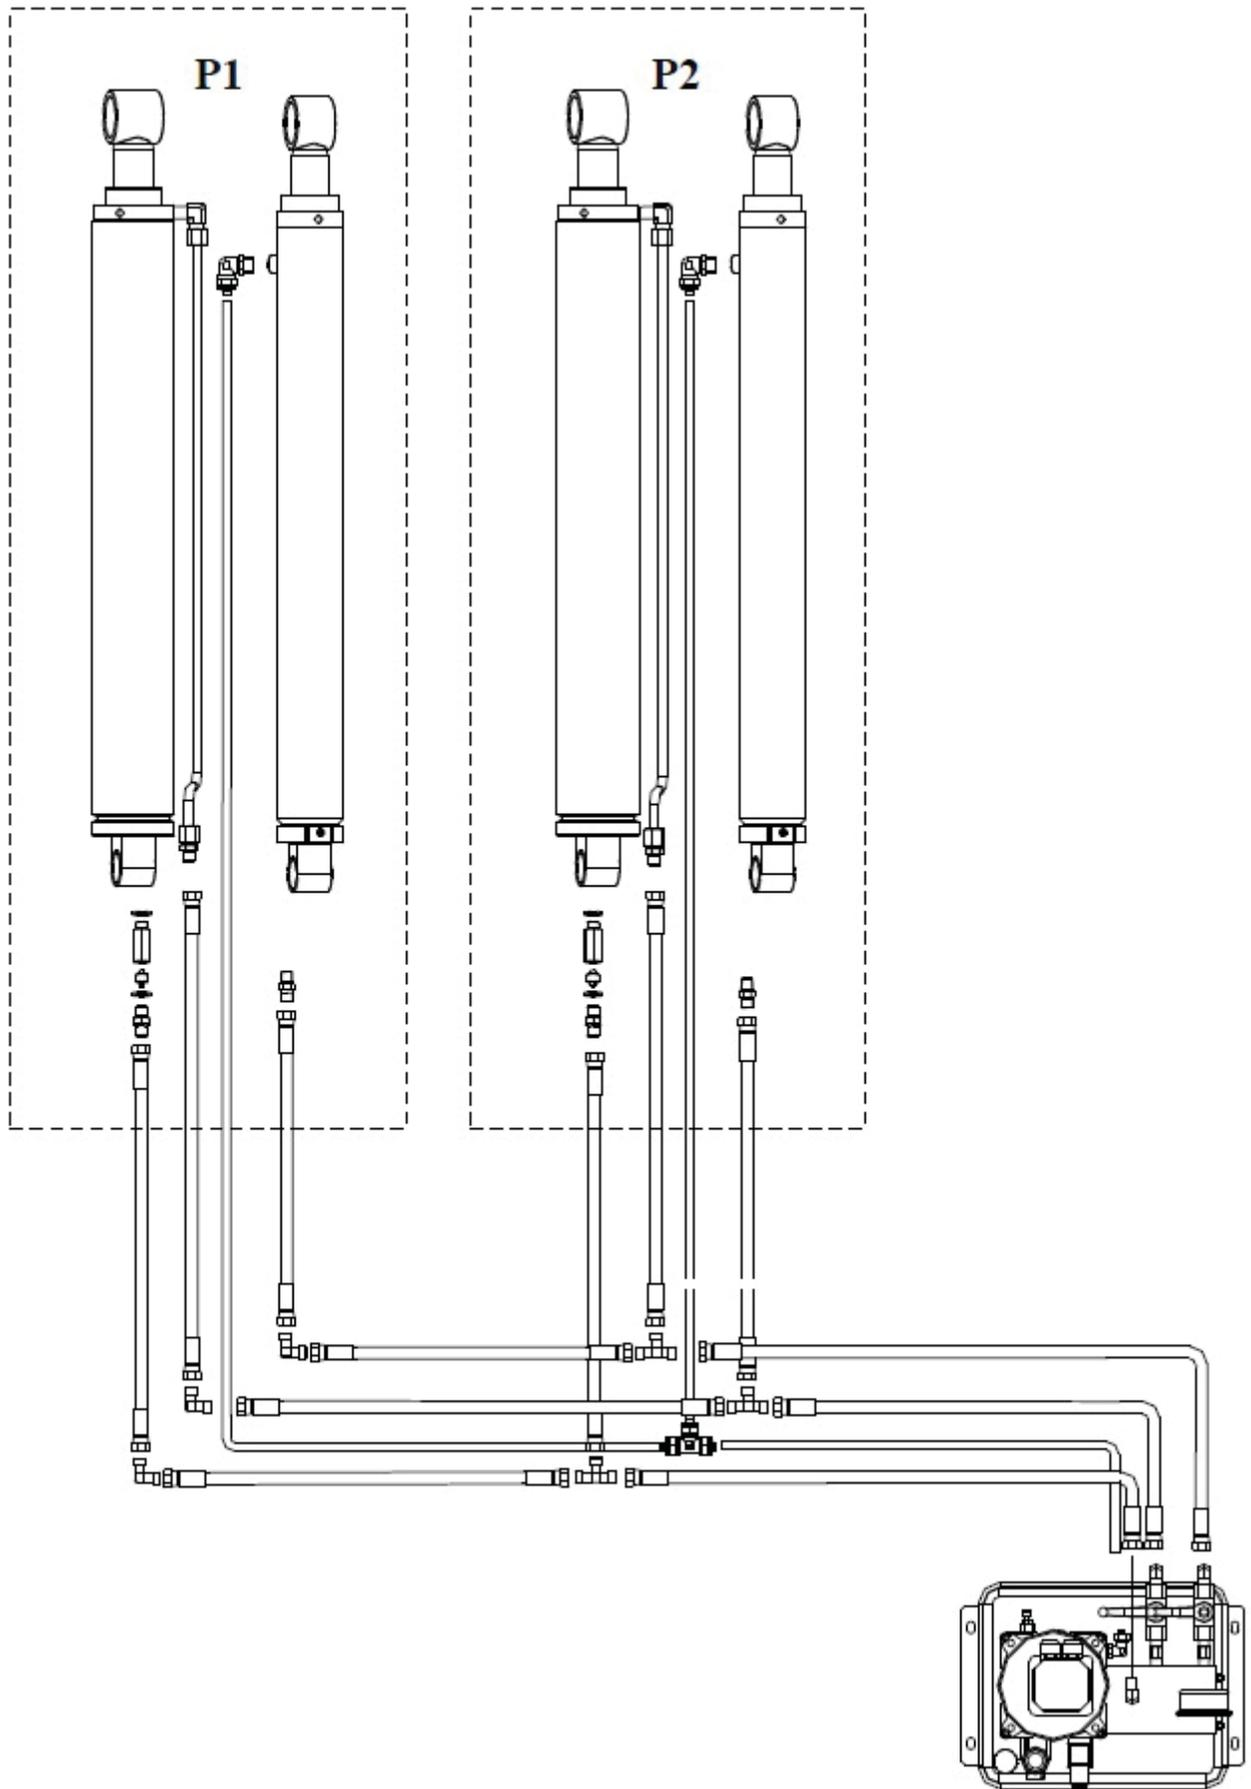

Figure 12 – Hydraulic Connection
7.5 Hydraulic System Connection (Ref. Fig. 12)
- Following Figure 12 connect hydraulic hose to the fittings referring to the letters shown on them.